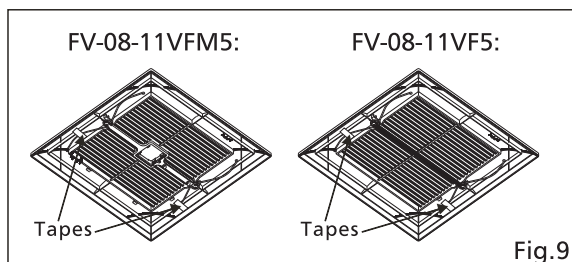

Fig.9
11. Remove the tapes from the louver and springs before installing the grille to the fan. Remove screw (M4X8) and light cover. (Fig.9)